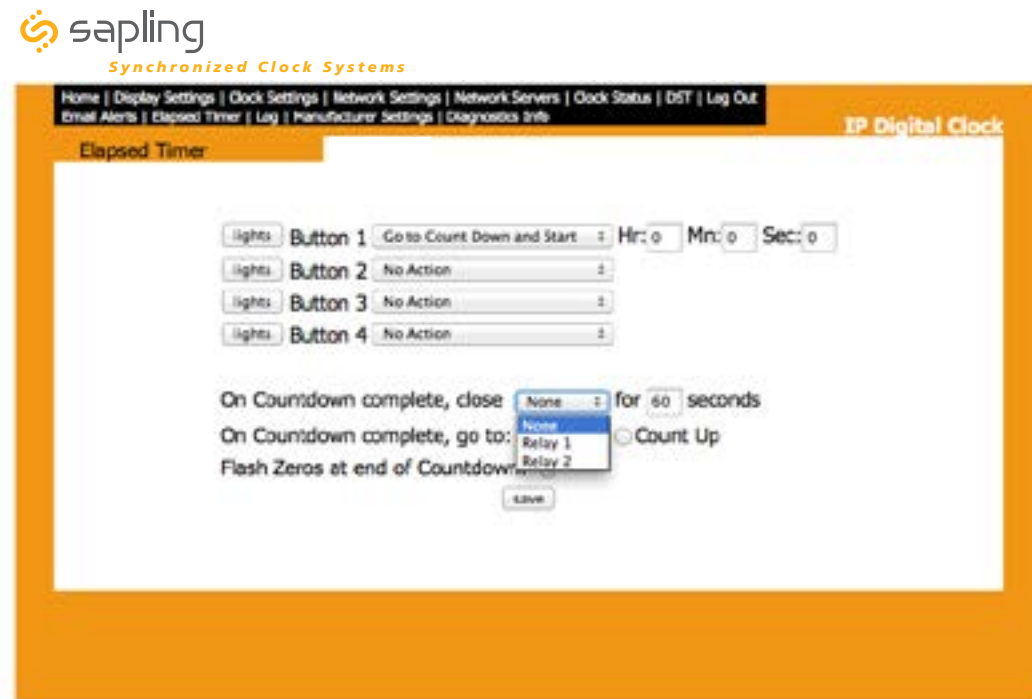

Fig. 6
1. When a user schedules a countdown, they may also command a relay to close after a countdown is complete (if using a 3300 Series Digital Clock). This is configured through the configuration window or web interface (Fig. 6). Listed below are the options for this function: